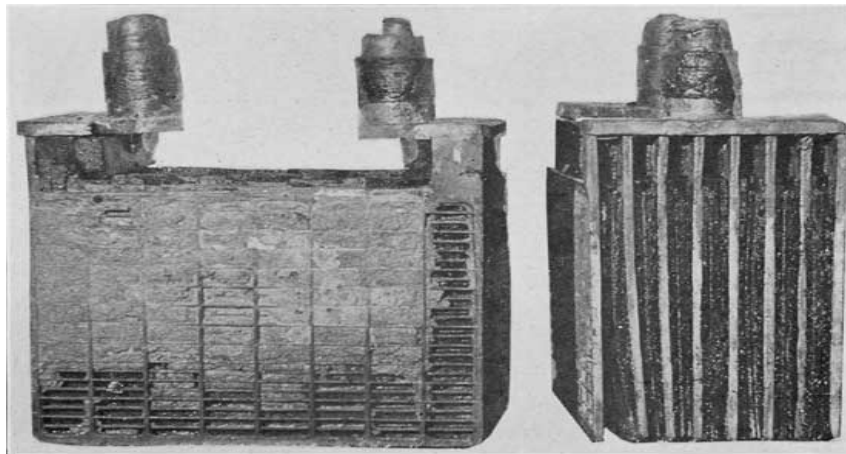

Fig. 211. Side and End View of Element from Traveling Salesman's Battery
6. Batteries with high gravity or hot electrolyte have burned and carbonized separators, turning them black and rotting them, the negative paste becomes granulated and is kept in a soft condition, and gradually drops from the grids on account of the jolting of the car on the road. Fig. 211 shows such a battery.